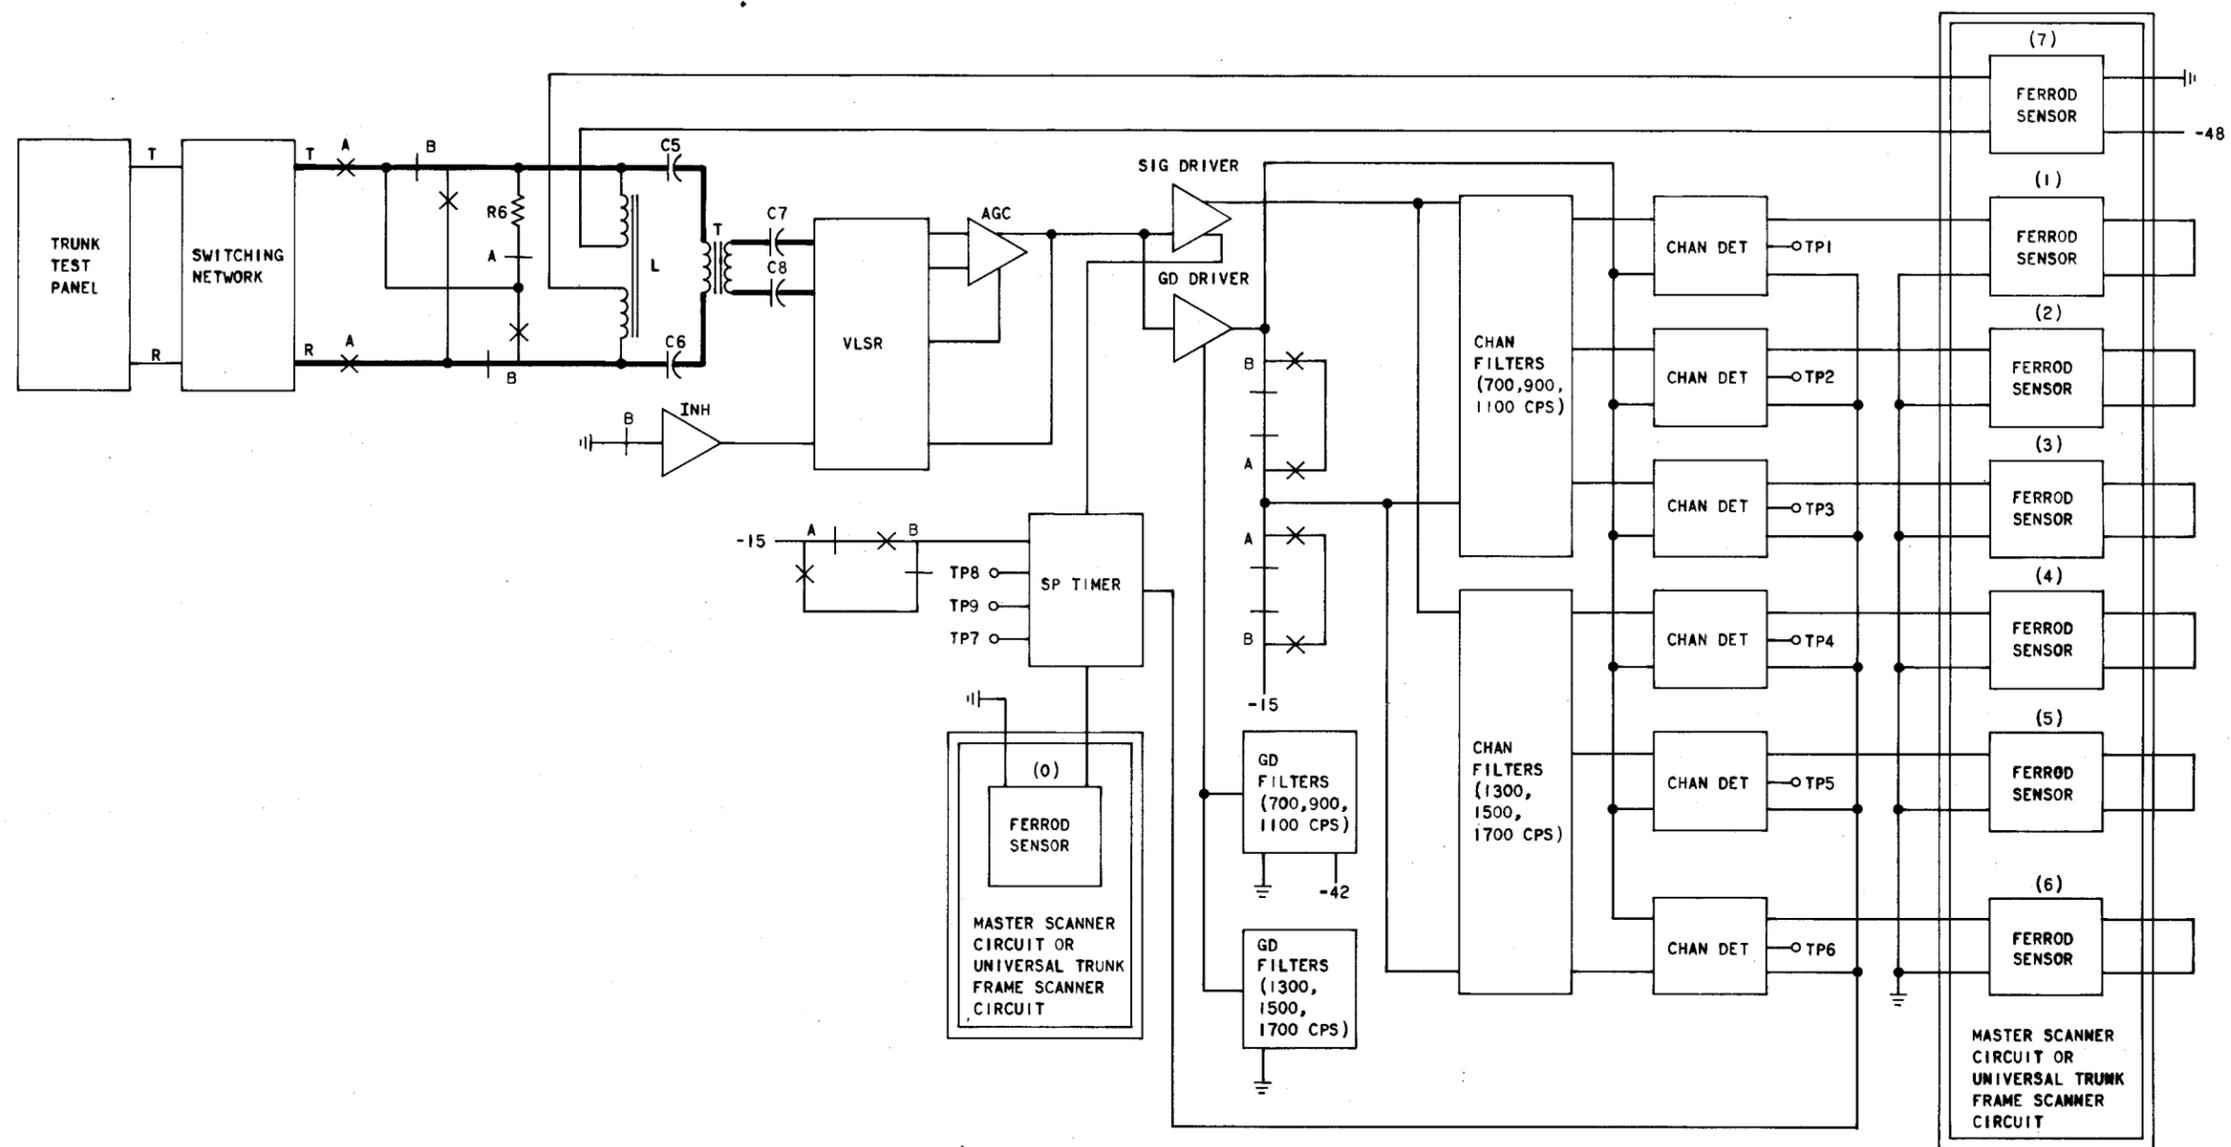

Fig. 2—Multifrequency Receiver Test Circuit (SD-2H124)
1.04 The MF receiver circuit (Fig. 2) is used to receive voice band MF signals from operator key sets or senders in distant offices. The circuit also recognizes what frequencies are present, and converts the signaling frequencies into dc signals suitable for operating associated scan points.